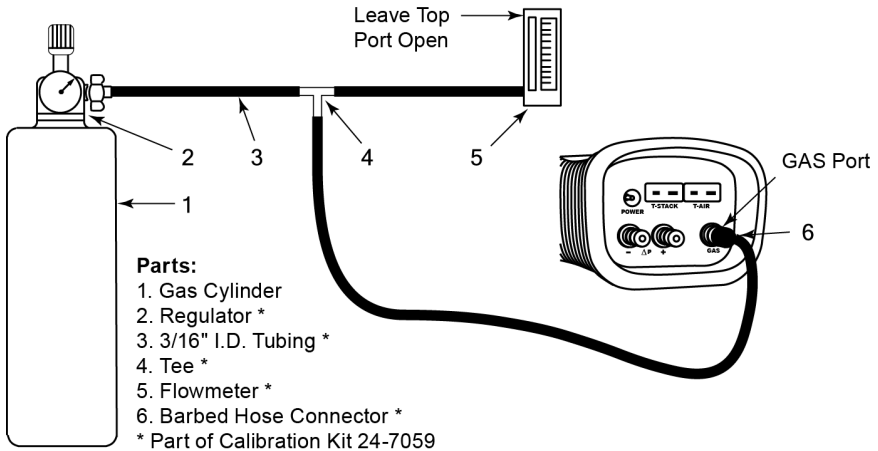

Figure 6-12. Gas Sensor Calibration Equipment
3. Attach a 500 ppm CO cylinder to the regulator of the calibration fixture shown in Figure 6-12 on page 76.
3. Attach a 100 ppm SO₂ cylinder to the regulator of the calibration fixture shown in Figure 6-12 on page 76.
3. Attach a 250 ppm NO cylinder to the regulator of the calibration fixture shown in Figure 6-12 on page 76.
- Attach a 100 ppm NO₂ cylinder to the regulator of the calibration fixture shown in Figure 6-12 on page 76.
3. Attach a 4,000 ppm CO cylinder to the regulator of the calibration fixture shown in Figure 6-12 on page 76.